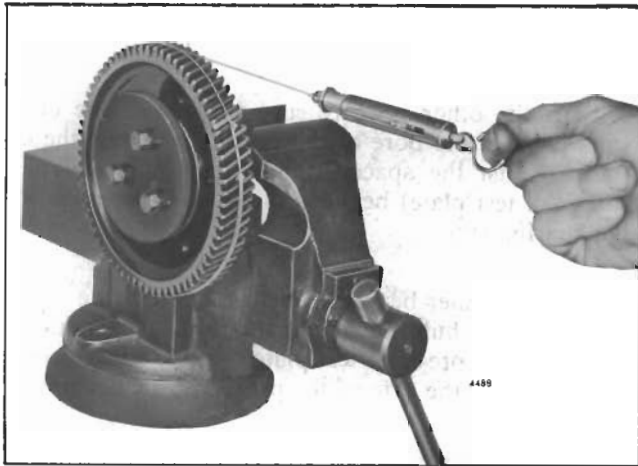

Fig. 7 - Checking Idler Gear Bearing Pre-Load
4. Tie one end of a piece of lintless 1/8" cord around a 1/8" round piece of wood (or soft metal stock). Place the wood between two of the gear teeth and wrap the cord around the periphery of the gear several times. Attach the other end of the cord to a spring scale J 8129 (Fig. 7). Maintain a straight steady pull on the cord and scale, 90° to the axis of the hub, and note the pull, in pounds and ounces, required to start the gear rotating. Make several checks to obtain an average reading. If the pull is within 1/2 lb. minimum to 4 lbs. maximum, and does not fluctuate more than 2 lbs 11 oz., the idler gear and bearing assembly is satisfactory for use.
3. Clamp the idler gear assembly and fixture in a vise (Fig. 7).